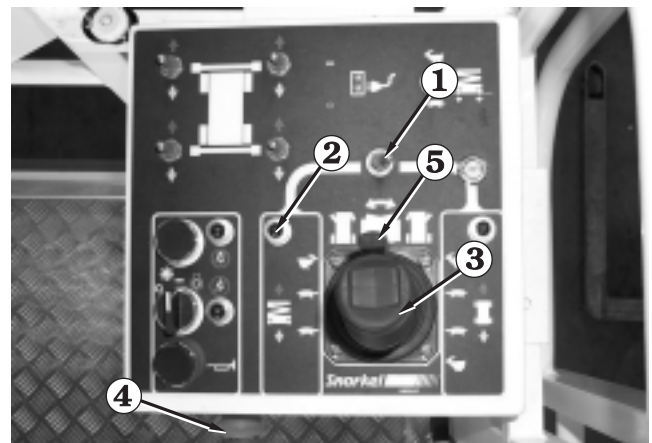

Figure 8.21
2. Set the **Lift/Drive Selector** ① (see Figure 8.21) to lift (left).
3. Squeeze and hold the **Safety Control** ⑤ against the **Joystick Controller** ③ (see Figure 8.21).
4. Push the **Joystick Controller** ③ forward to raise the platform, or backward to lower it. The further you push the **Joystick Controller** ③ forward, the faster the platform rises. There is only one down speed.